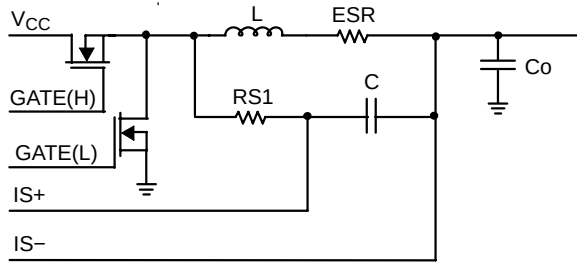

Figure 9. Inductor ESR Current Sensing
**Inductor ESR.** Another means of sensing current is to use the intrinsic resistance of the inductor. A model of an inductor (Figure 9) reveals that the windings of an inductor have an effective series resistance (ESR).
The advantages of setting the current limit by using the winding resistance of the inductor are that efficiency is maximized and heat generation is minimized. The tolerance of the inductor ESR must be factored into the design of the current limit. Finally, one or two more components are required for this approach than with resistor sensing. Note that, in the example of Figure 9, the  $IS+$  input bias current flowing through  $R_{S1}$  will introduce a small offset error. If  $R_{S1} = 4 \text{ k}\Omega$ , at the maximum bias current limit of 1  $\mu$ A, the error will be 4 mV. This error can be avoided by using two separate resistors, each half the calculated value, as shown ( $R1$  through  $R4$ ) in the typical application circuit of Figure 1.